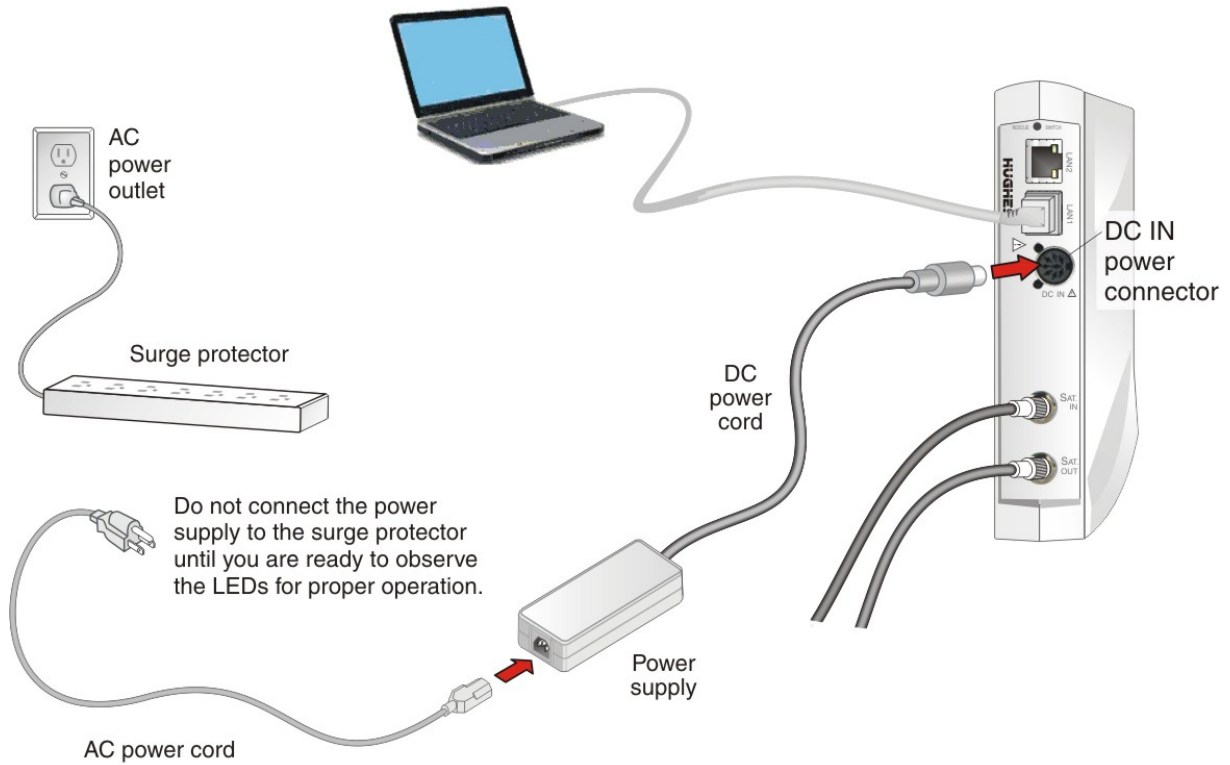

Figure 7: Connecting an AC power supply
2. Connect the DC power cord to the DC IN port on the router, as shown in *Figure 7: Connecting an AC power supply* on page 20.